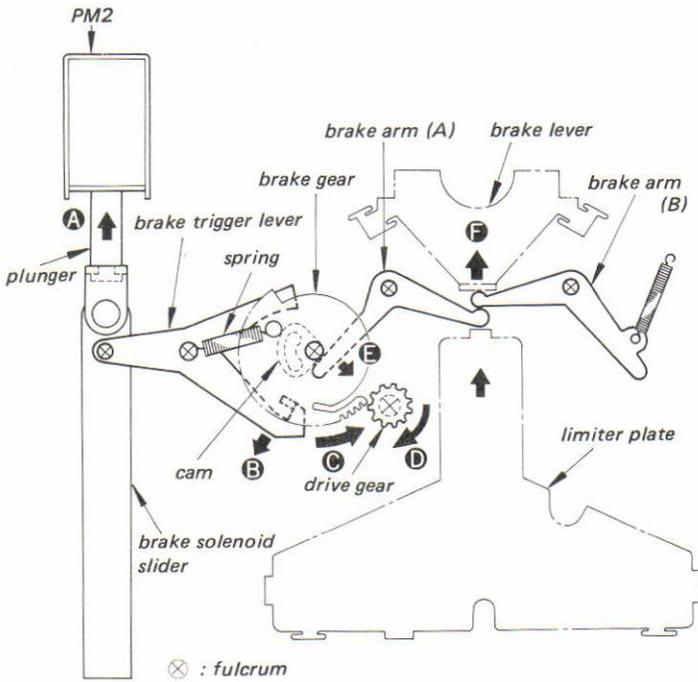
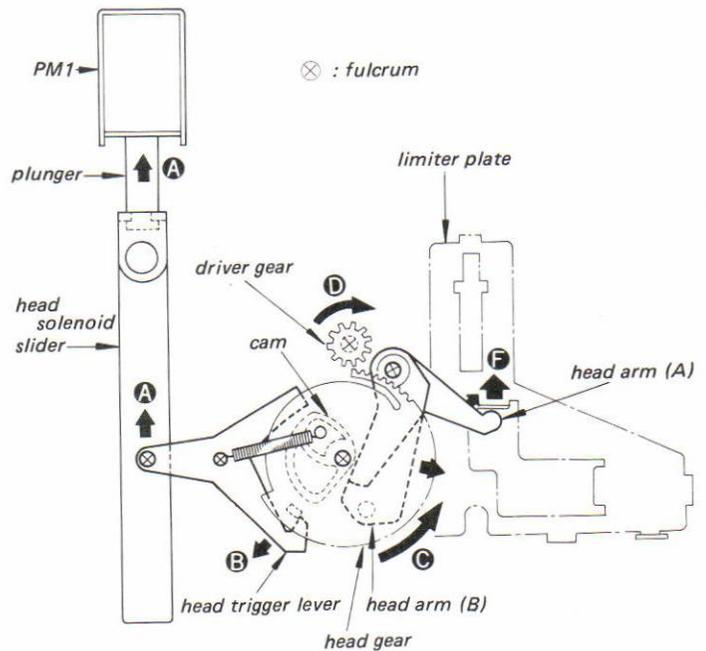

Fig. 1-1
Fig. 1-2
**Brake Release during fast forward mode and rewind mode.** See Fig. 1-1.
1. Depress the function button ►► (FF) or ◄◄ (REW).
4. When the cam pushes the brake arm (A) in the direction shown by the arrow **E**, the brake lever moves in the direction shown by the arrow **F** and releases the brake.
**Head Deck Drive during forward mode.** See Fig. 1-2.
4. When the cam pushes the head arm (A) in the direction shown by the arrow **E**, the limiter plate moves in the direction shown by the arrow **F**. Thus, the head deck is lifted and the head contacts the tape.
5. With the limiter plate moving, the brake lever moves in the direction shown by the arrow **F** in Fig. 1-1 and releases the brake.